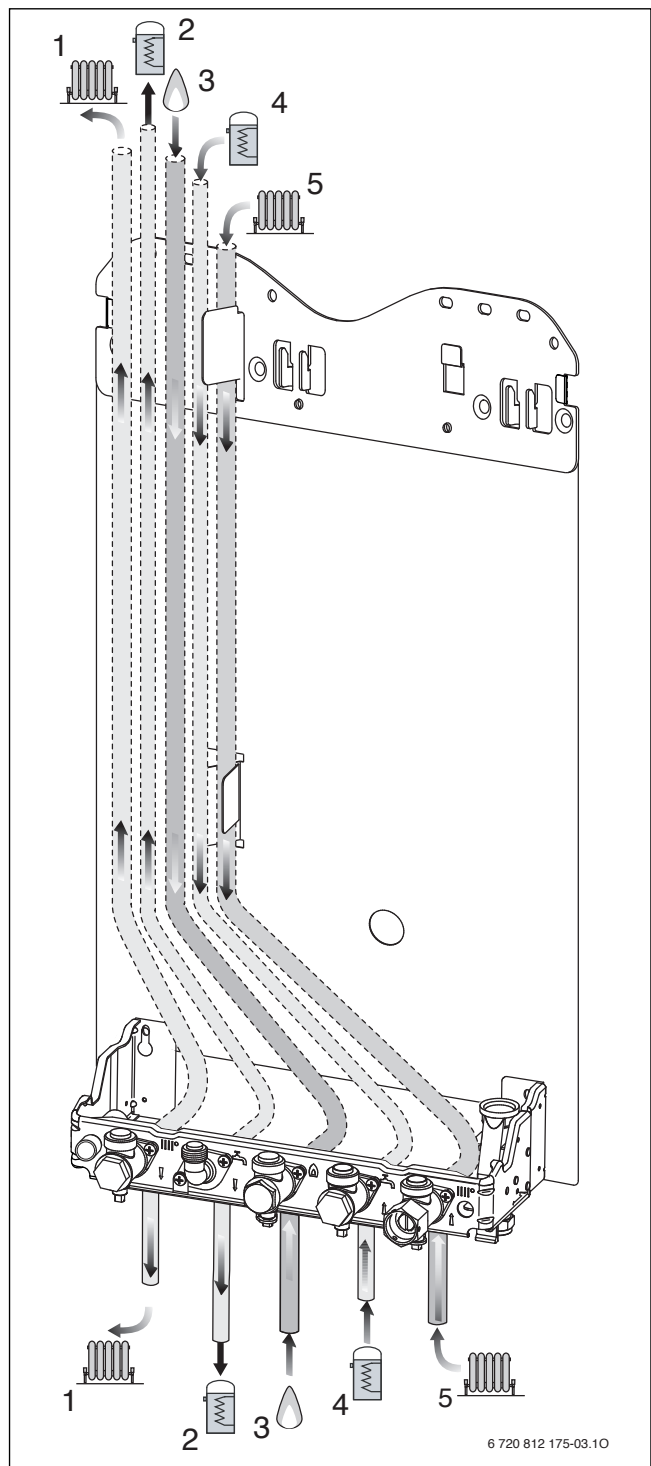

Fig. 18 With optional integral diverter valve
- ▶ **IF FITTING OPTIONAL INTEGRAL DIVERTER VALVE** install the pipe work as shown in figure 18 (also see additional information in the document supplied with the diverter valve kit).